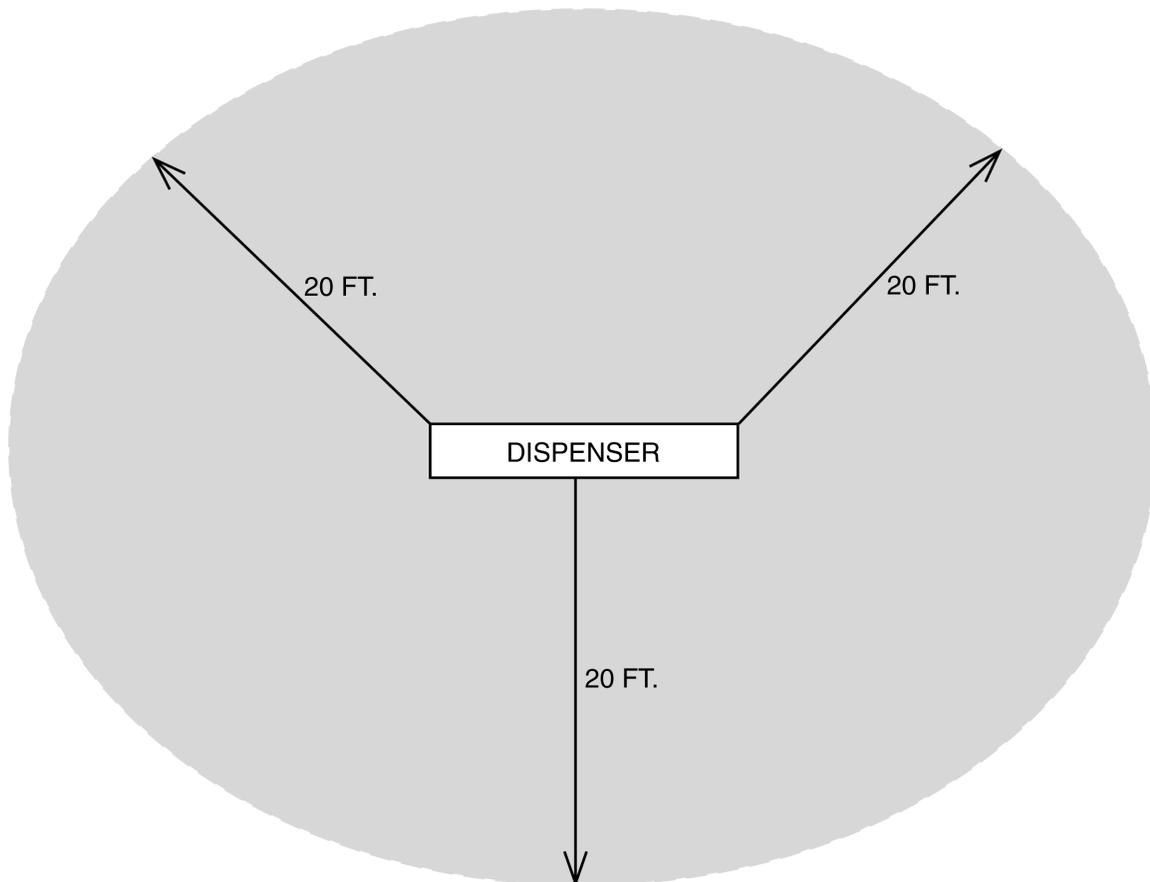

Figure 4-1 U.S. Hazardous Zone Diagram. *Front and Top views showing horizontal and vertical distances.*
- Know the Hazardous Zone area around the dispenser as shown in Figure 4-1 and Figure 4-2.